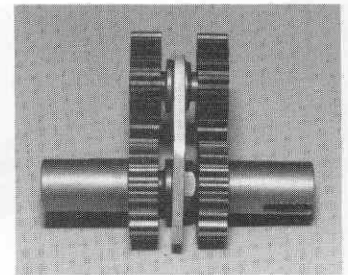

Fig. 51
□ **Fig. 51** Rotate both L.H. and R.H. gear sets. They should both rotate very freely. If they do not rotate freely, you probably don't have one of the pivot pins installed properly in the aluminum plate. (Those flanges MUST be flush and even against the plate!) You can also try lifting and rotating the plastic gear a few teeth before remeshing. You may find a position where they are the smoothest.